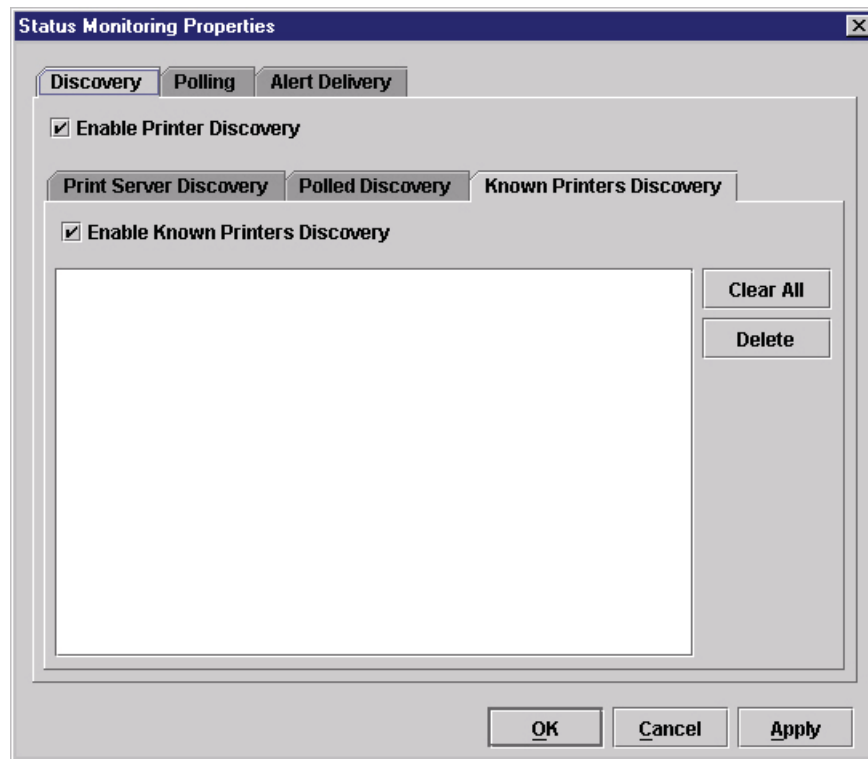

Figure 30 Status Monitoring Properties: Discovery Tab – Known Printers Discovery Sub-Tab
3. **Known Printers Discovery:** This option logs previously discovered printer IP addresses. From this log, you can select and delete previously polled discoveries to create a new polling list to target your printer search. To enable the option, click the **Known Printers Discovery** tab and check the **Enable Known Printers Discovery** check box (see Figure 30). From the polled list of IP addresses, refine your search by keeping or deleting found IP addresses. Click **Apply** or **OK** to start a new poll based on your specification.